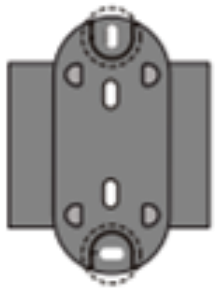

Figure 6
2. Measure and mark the mounting holes on the wall using the display wall mount bracket as a template (Figure 6)